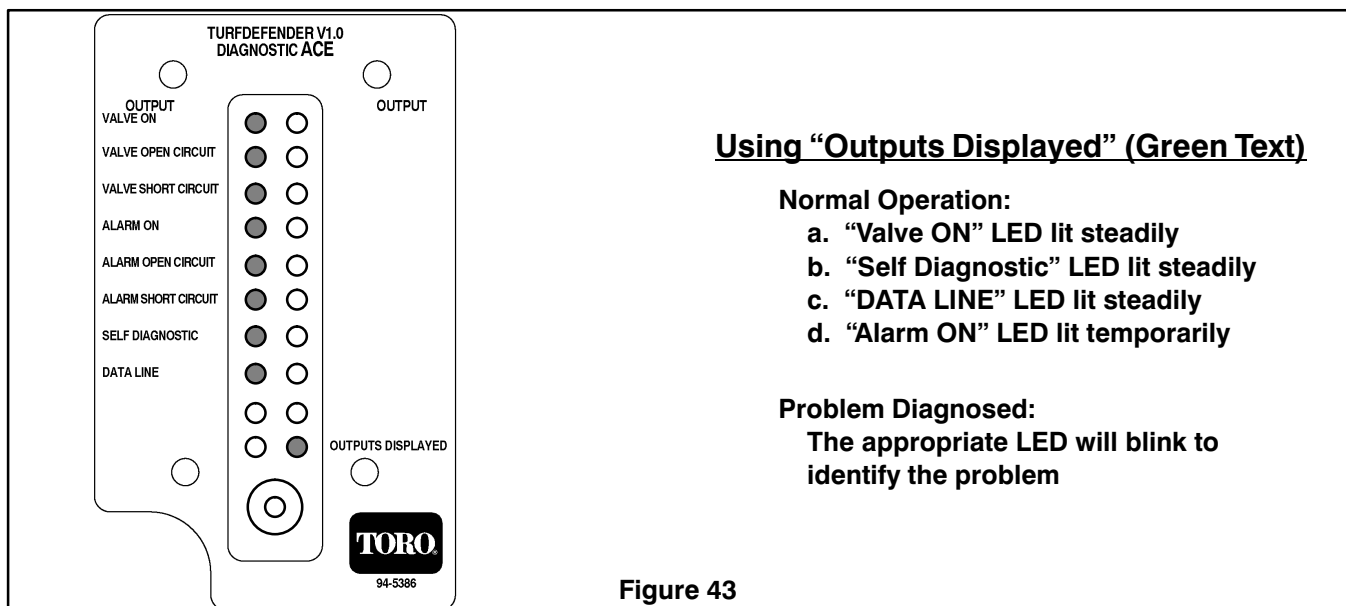

Figure 43
2. Press toggle button until green "Outputs displayed" LED is lit. "Valve ON", "data line" and "self diagnostic" LED's should be lit steadily. "Alarm ON" LED may be displayed temporarily (about 5 seconds) (Fig. 43).
2. Toggle "outputs displayed" on Diagnostic ACE display (Fig. 43).
2. When toggling “output” a LED should display (Fig. 43) any of the following problems diagnosed by the TurfDefender:
Dupe old figure 43